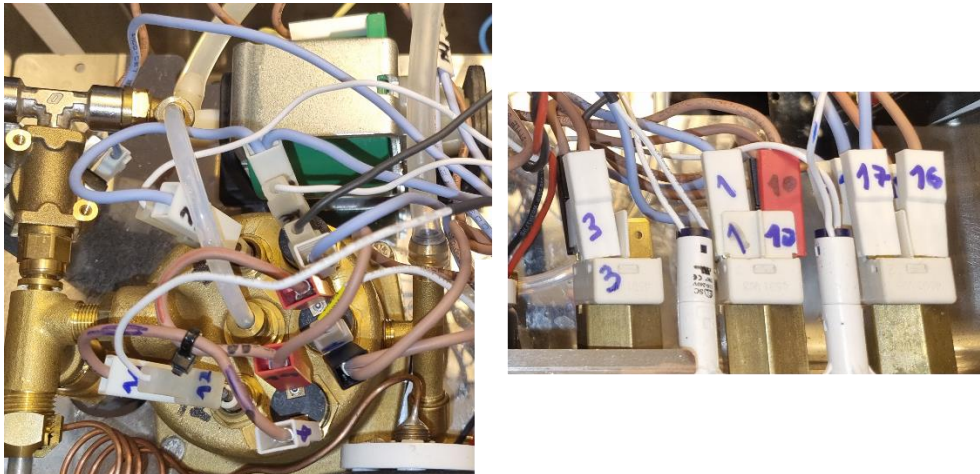

Fig. 1.3
- Before starting to remove any wires and disconnect any plugs it is best to take notes, make pictures and number all the plugs inside (fig. 1.3). This step is optional and it is required only if you intend to undo the modifications back to the original state at a later date.